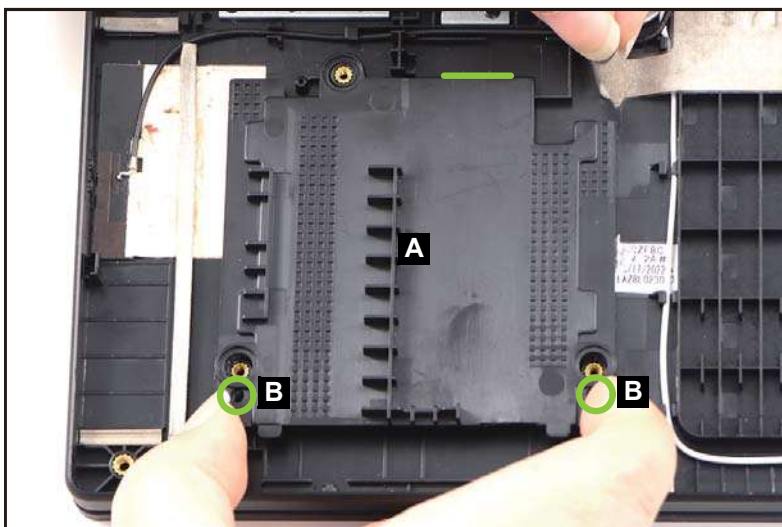

Figure 3-16. Smart Card Reader Holder Removal
2. Release the card reader holder (A) from the guide pins (B) and the upper tab slot highlighted by the green line as shown in Figure 3-16. Then remove the holder.